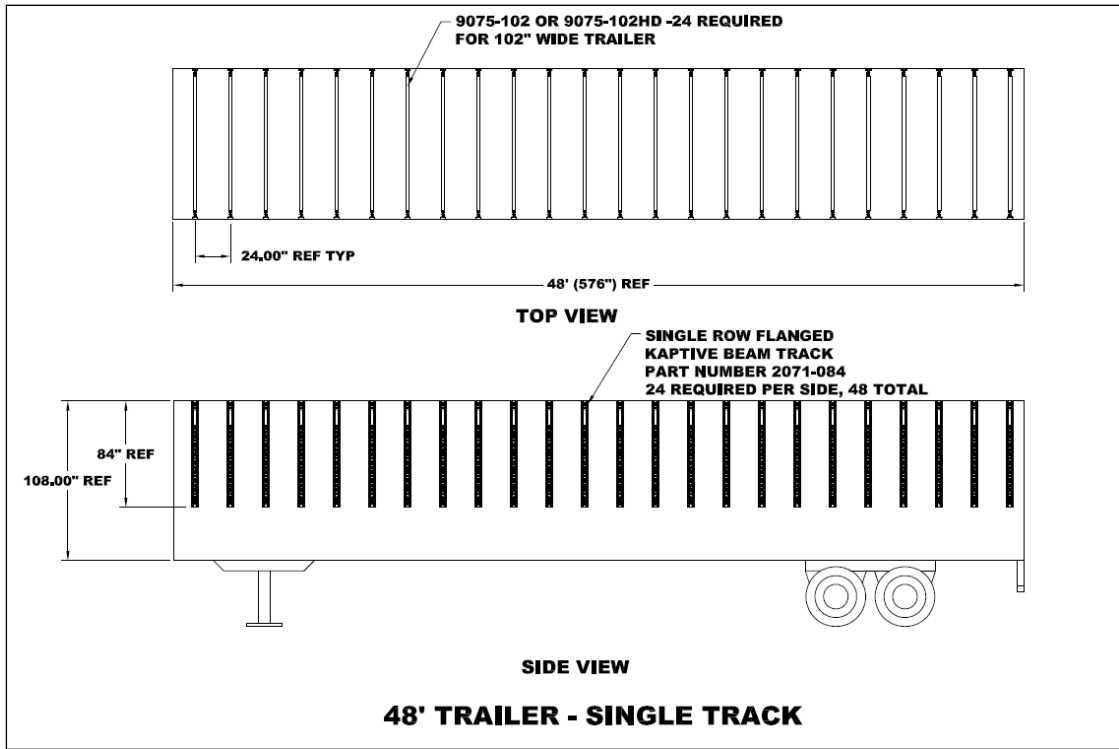
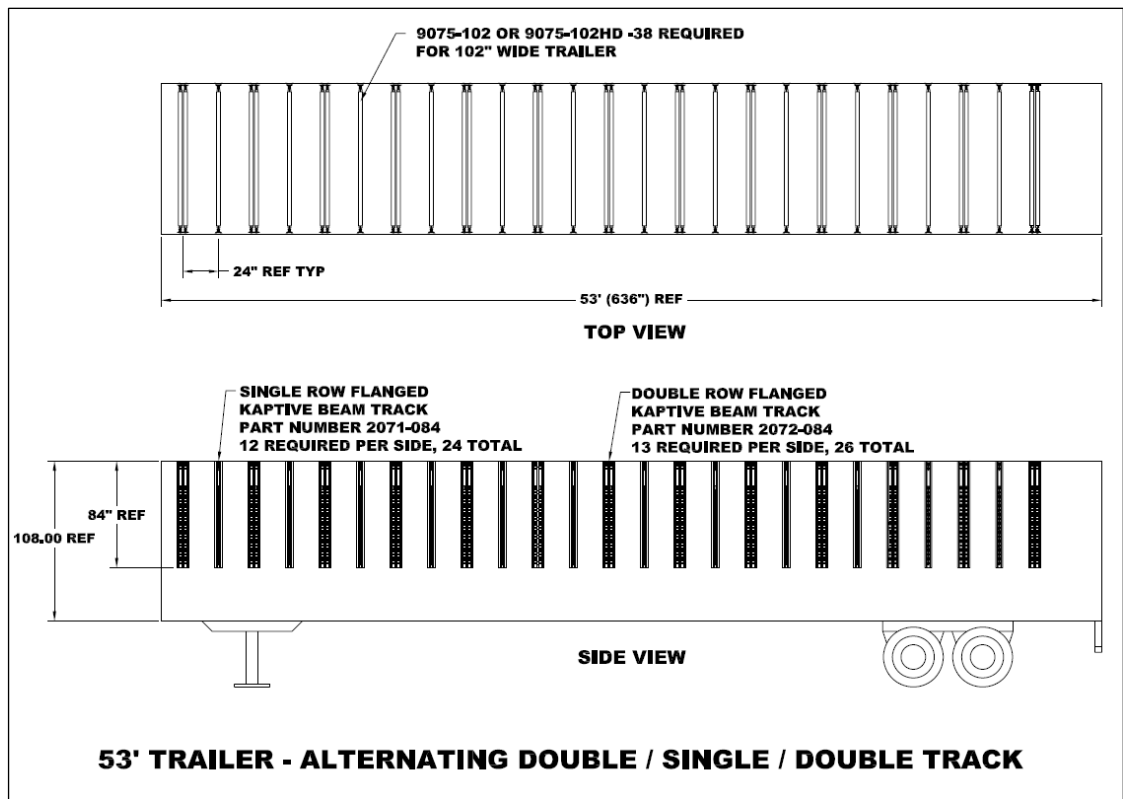

Figure 1
Figure 4
- Determine the track layout in the trailer. Typical layouts are shown in **Fig. 1 – Fig. 4**